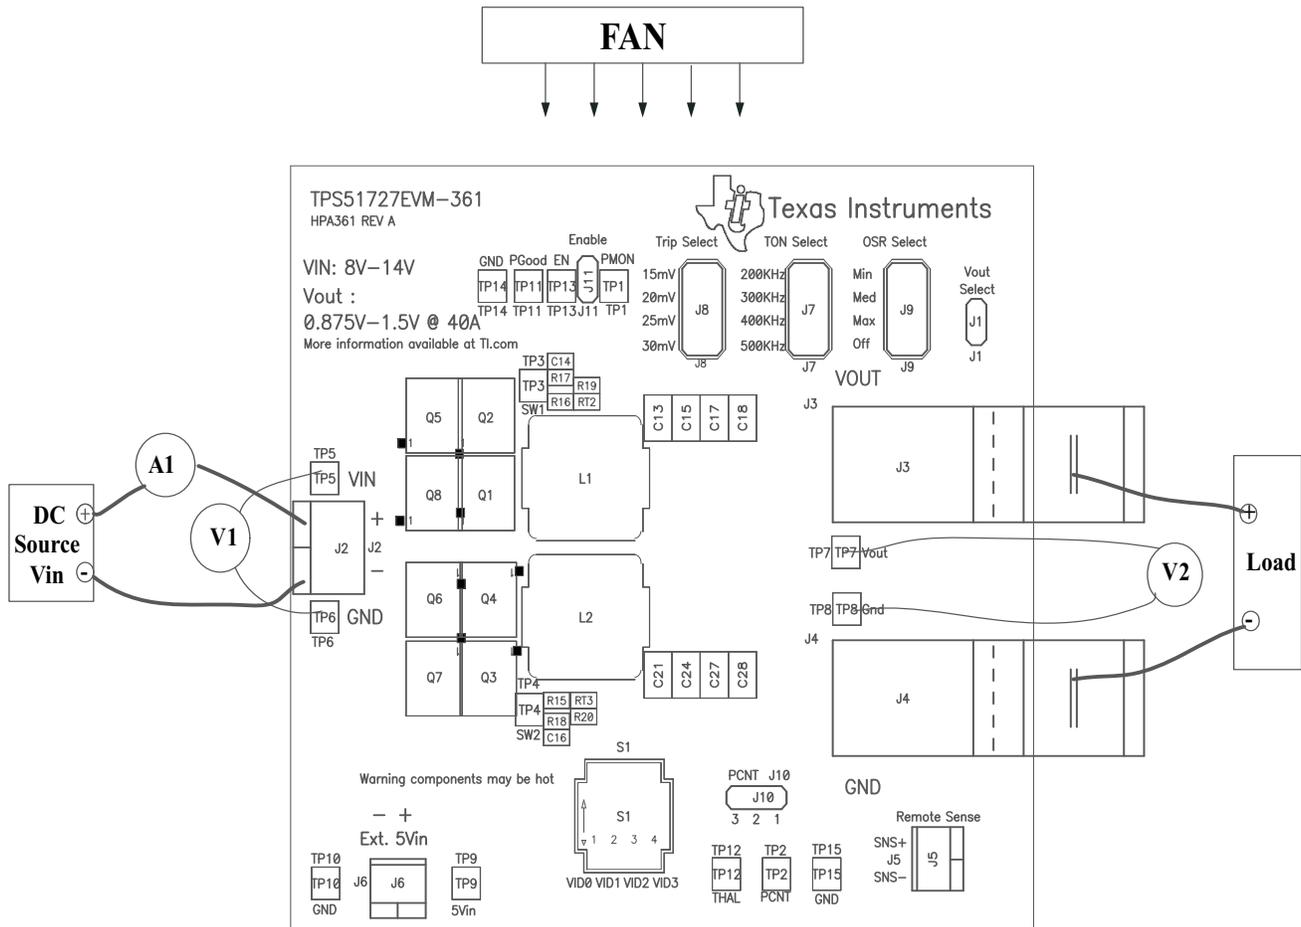

Figure 4. TPS51727EVM Recommended Test Setup
Voltage Source: The input voltage source V_{in} must be a 0-V to 14-V variable dc source capable of supplying 20 Adc. Connect V_{in} to J2 as shown in Figure 4.
Multimeters: A 0-V to 14-V voltmeter must be used to measure V_{in} at TP5 (V_{in}) and TP6 (GND). A 0-V to 5-V voltmeter must be used for V_{out} measurement at TP7 (V_{out}) and TP8 (GND). A 0-A to 20-A current meter (A1) as shown in Figure 4 is used for input current measurements.
Figure 4 is the recommended test setup to evaluate the TPS51727EVM. Working at an ESD workstation, ensure that any wrist straps, bootstraps, or mats are connected, referencing the user to earth ground before power is applied to the EVM.
1. Prior to connecting the dc input source V_{in} , it is advisable to limit the source current from V_{in} to 15 A maximum. Ensure that V_{in} is initially set to 0 V and connected as shown in Figure 4.
Place a fan as shown in Figure 4 and turn it on, ensuring that air is flowing across the EVM.